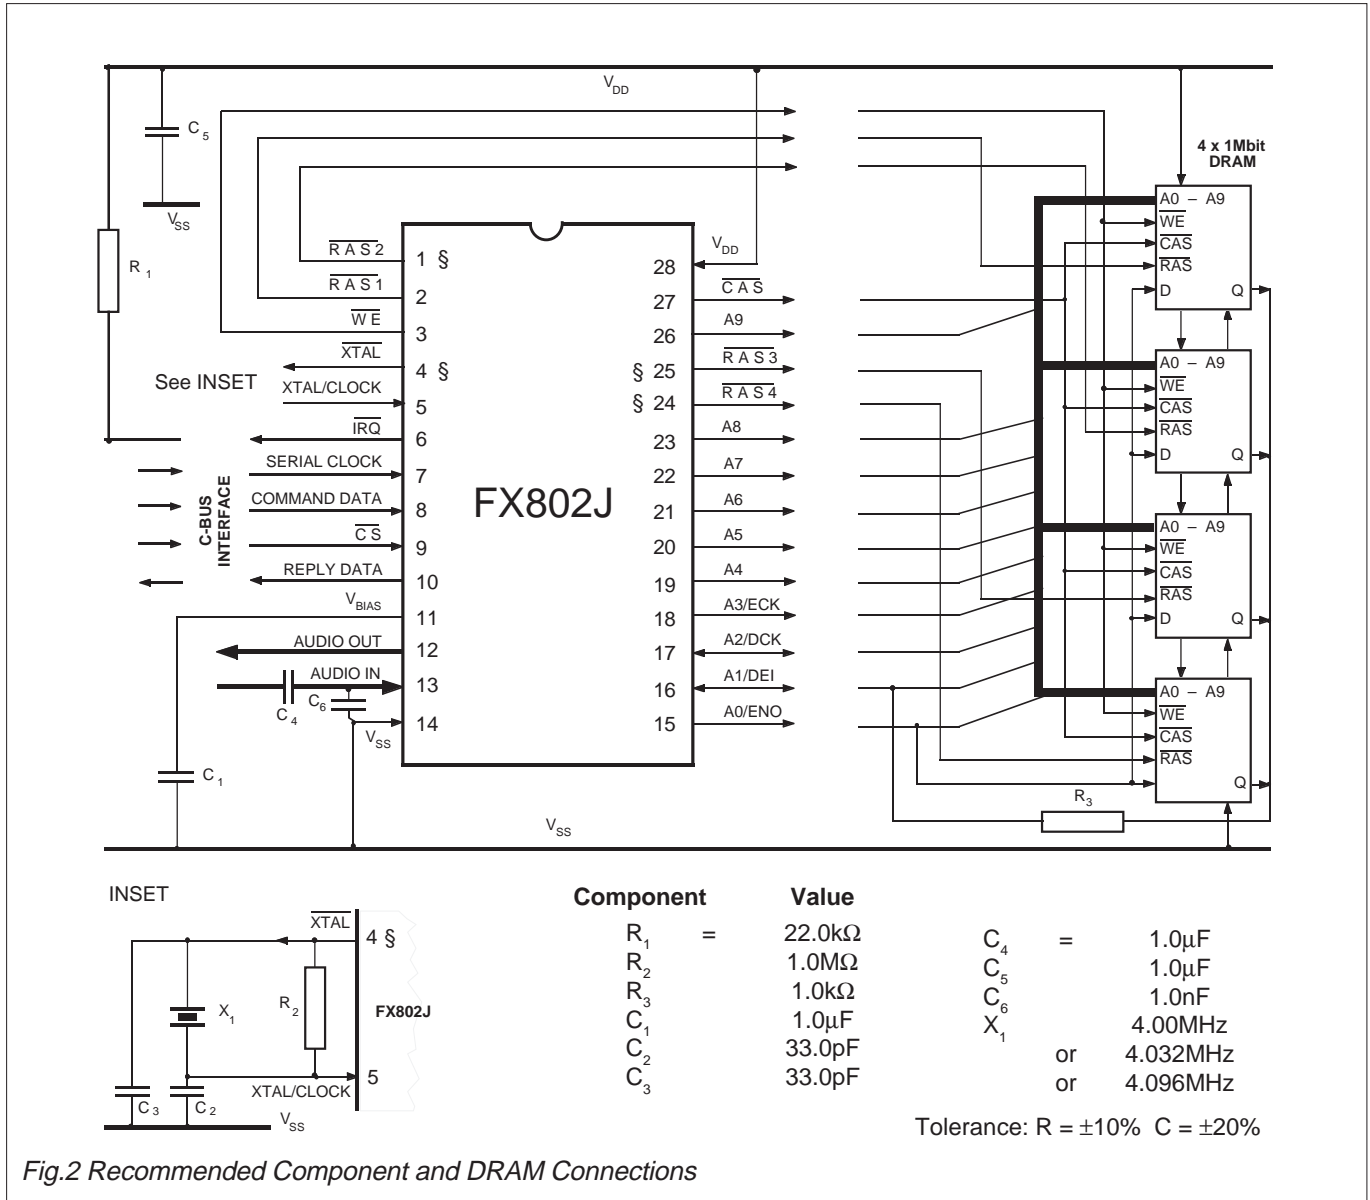

Fig.2 Recommended Component and DRAM Connections
| 5          | 3              | Xtal/Clock: The input to the on-chip clock oscillator inverter. A 4.0MHz Xtal or externally derived clock should be connected here, see Figure 2. This clock provides timing for on-chip elements, filters etc. A Xtal cannot be used with the 24-pin version. Various Xtal frequencies can be used with this device, see Table 3 for the sampling clock rate variations.  |
| 11         | 9              | VBIAS: The output of the on-chip analogue circuitry bias system, held internally at $V_{DD}/2$ . This pin should be decoupled to $V_{SS}$ by a capacitor $C_1$ , See Figure 2.  |
- Figure 2 (above) shows connections to 4 x 1Mbit sections of DRAM. If desired, to simplify PCB layout, the DRAM inputs A0 to A8 may be connected in any order to the FX802 DVSR Codec output pins A0 to A8. Connections to 256kbit DRAM are similar, but A9 unconnected.